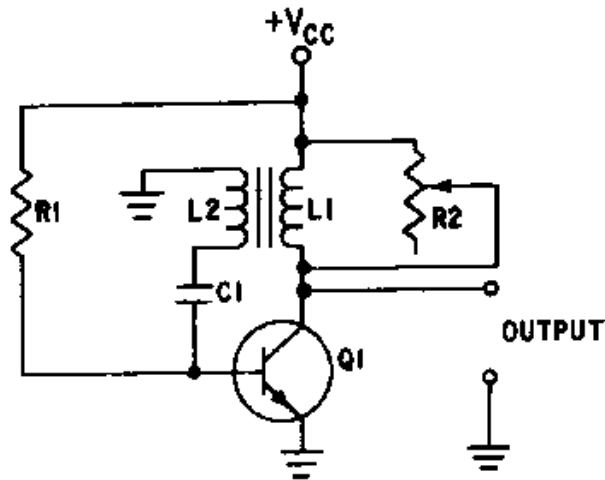

Figure 3-35.—Circuit damping.
The collector waveform may have an INDUCTIVE OVERSHOOT (PARASITIC OSCILLATIONS) at the end of the pulse. When Q1 cuts off, current through L1 ceases, and the magnetic field collapses, inducing a positive voltage at the collector of Q1. These oscillations are not desirable, so some means must be employed to reduce them. The transformer primary may be designed to have a high dc resistance resulting in a low Q; this resistance will decrease the amplitude of the oscillations. However, more damping may be necessary than such a low-Q transformer primary alone can achieve. If so, a DAMPING resistor can be placed in parallel with L1, as shown in figure 3-35.
When an external resistance is placed across a tank, the formula for the Q of the tank circuit is $Q = R/X_L$, where R is the equivalent total circuit resistance in parallel with L . You should be able to see from the equation that the Q is directly proportional to the damping resistance (R). In figure 3-35, damping resistor R_2 is used to adjust the Q which reduces the amplitude of overshoot parasitic oscillations. As R_2 is varied from infinity toward zero, the decreasing resistance will load the transformer to the point that pulse amplitude, pulse width, and prf are affected. If reduced enough, the oscillator will cease to function. By varying R_2 , varying degrees of damping can be achieved, three of which are shown in figure 3-36, view (A), view (B) and view (C).